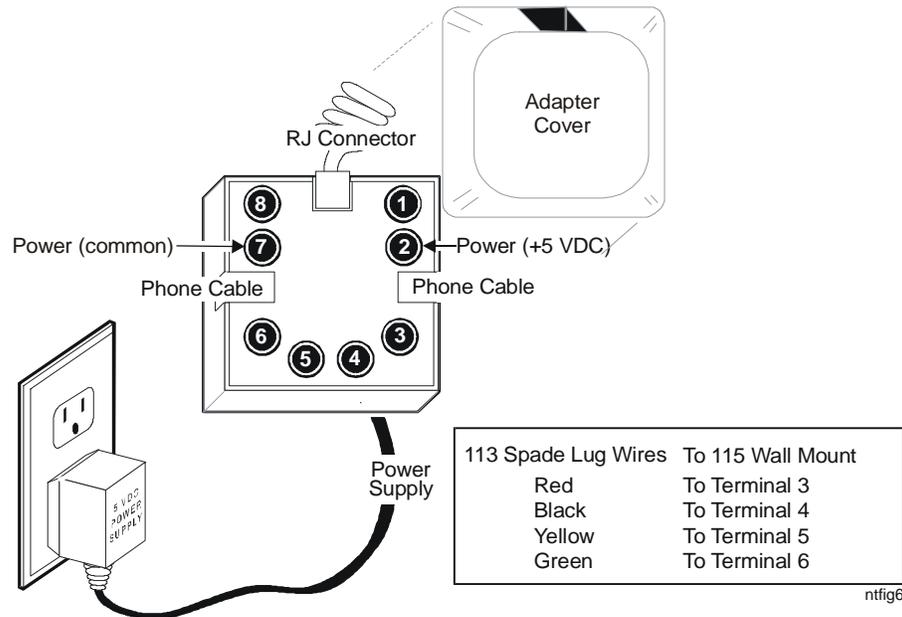

Figure 6: Installing the IO-NTU115-0
5. Connect the RNT's wall-jack cable spade lugs to the NTU115 wall-mount terminals using Table 2 (see Figure 6 to view the wall-mount terminal diagram).
Note: A capacitor (not shown in Figure 6) is factory installed from Terminals 2-7. Do not remove the capacitor.
IO-NTU115-0 (Figure 6)
- From the NTU113 modem, connect as shown in Table 2 and in Figure 6.